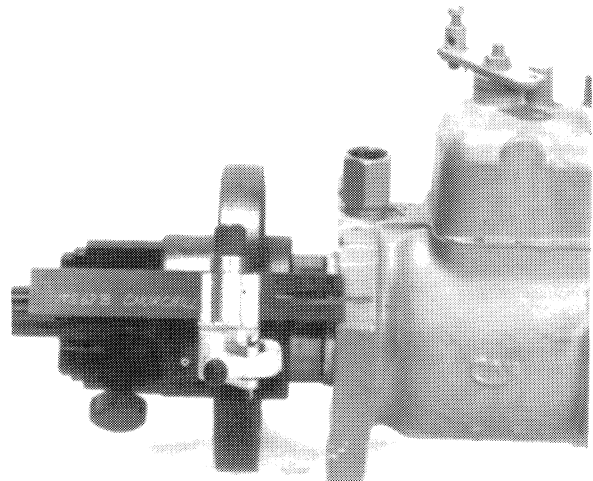

Fig. H.4.
2. Ensure that slotted pointer (2) is positioned with slot to rear of tool and chamfered sides of slot outwards. At this stage, slotted end of pointer should be kept well back towards body of tool. Ensure that the flat in the washer fitted behind the pointer securing screw (3) is located over side of pointer.
3. Release bracket screw (4) and set bracket so that the chamfered edge is in line with the relevant fuel pump marking angle (See Page A.10).
4. Position timing tool with splined shaft in hub, slide tool towards pump to rest on end of hub and lock shaft in tool (See Fig. H.4).